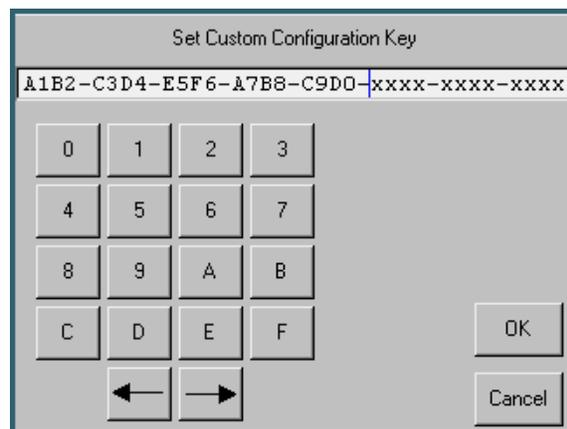

Figure 10-2: Set Custom Configuration Key Screen
- Using the alphanumeric keypad, enter the 32-character capacity upgrade **key code**, then click **OK** (Figure 10-2).